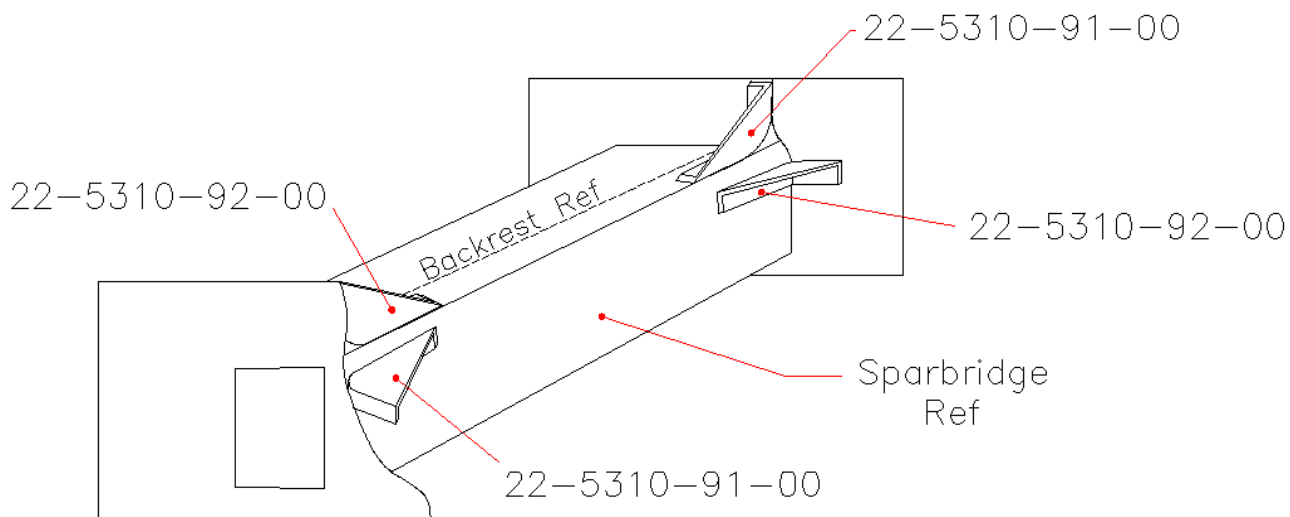
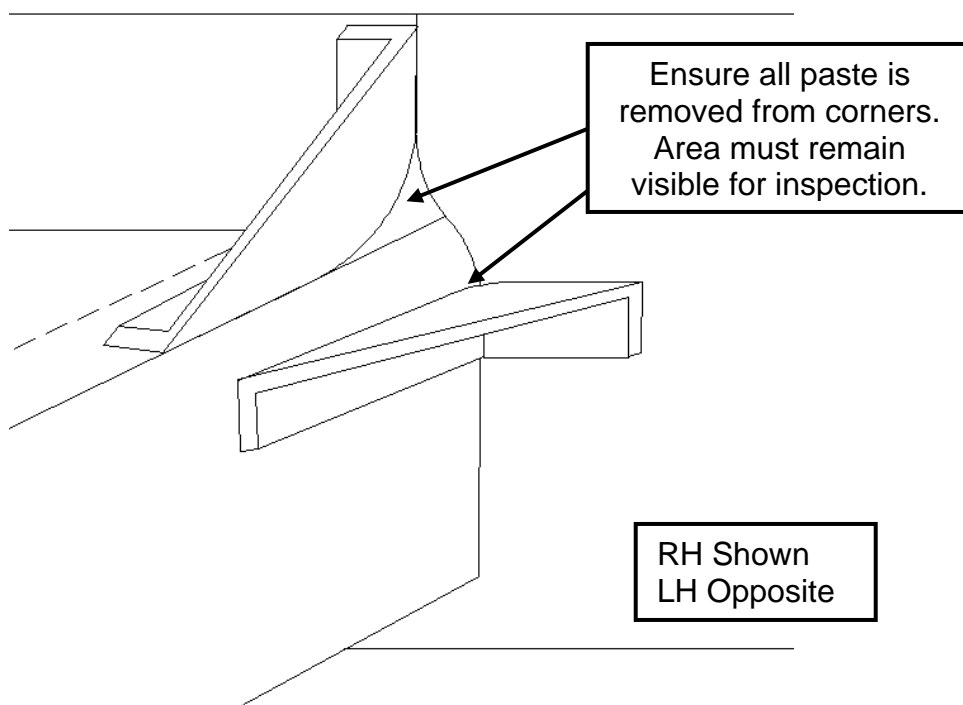

Figure 3 – Gusset Orientation
Figure 4 – Paste Cleanup
- 10.8 Dry fit gussets into place to ensure paste gap does not exceed 8 mm. Location of gussets shown in Figure 3. Mask off area around bonding flanges once position has been set.
- 10.14 Fit gussets to appropriate location and orientation as shown in Figure 3. Clean excess paste as it is squeezed out. **Ensure all paste squeeze out is cleaned from gusset radii and upper aft spar bridge corner. The area must be fully visible for inspection. See Figure 4.**